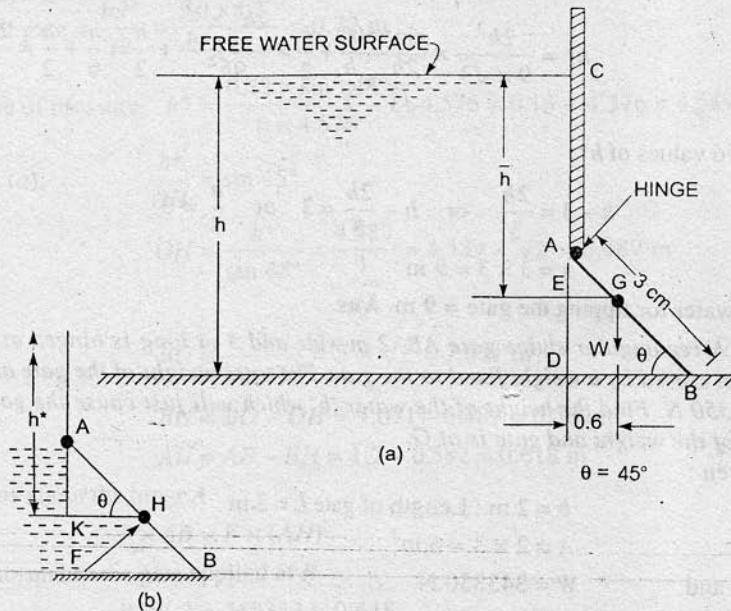

Fig. 3.25
**Problem 3.20** A rectangular sluice gate AB, 2 m wide and 3 m long is hinged at A as shown in Fig. 3.25. It is kept closed by a weight fixed to the gate. The total weight of the gate and weight fixed to the gate is 343350 N. Find the height of the water 'h' which will just cause the gate to open. The centre of gravity of the weight and gate is at G.
From Fig. 3.25 (a),
The total force  $F$  is acting at the centre of pressure as shown in Fig. 3.25 (b) at H. The depth of H from free surface is given by  $h^*$  which is equal to